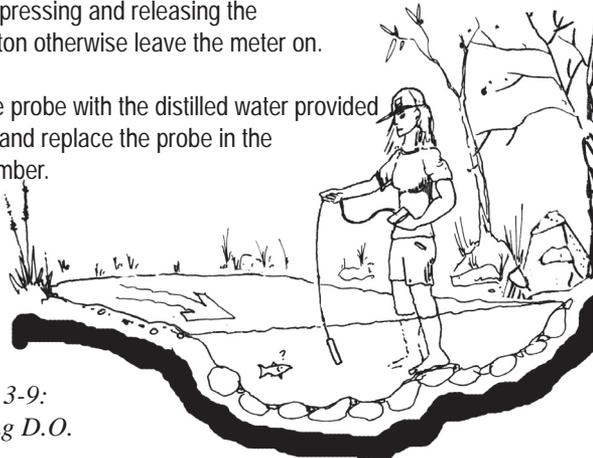

Figure 3-9:
2. Lower the probe in the water halfway between the surface and the bottom of the water you are sampling (at least 3.5 inches below the surface water). **Do not let the probe hit the bottom** (Figure 3-9).